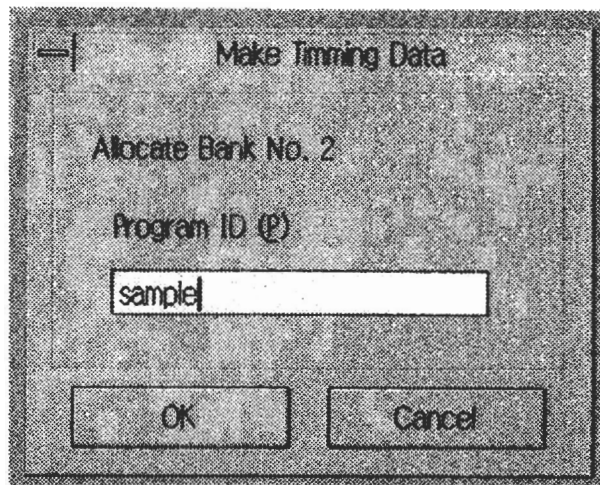
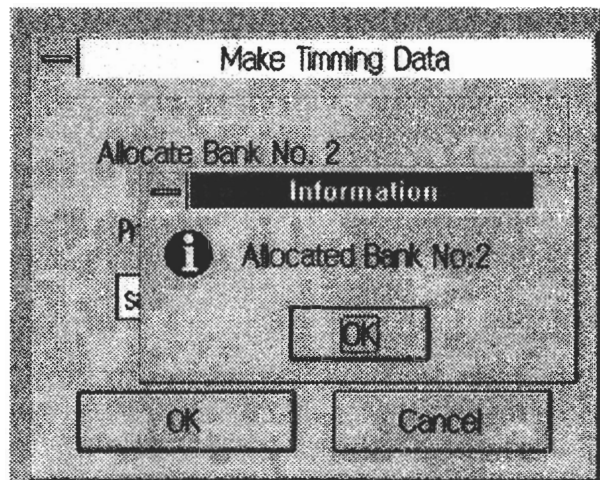

Figure 7-11
Figure 7-12
- Click on “File (E)” and then “Bank New (N)” in the pull-down menu.
The “Make Timing Data” dialog (Figure 7-11) is opened, a new BANK number is assigned to the next to the currently used BANK number. Write data into “Program ID (P)” and click on the “OK” button to display the informational dialog (Figure 7-12). Note: that you cannot define the new BANK number. In the new BANK, the VGA480-6 timing data is contained in all addresses.